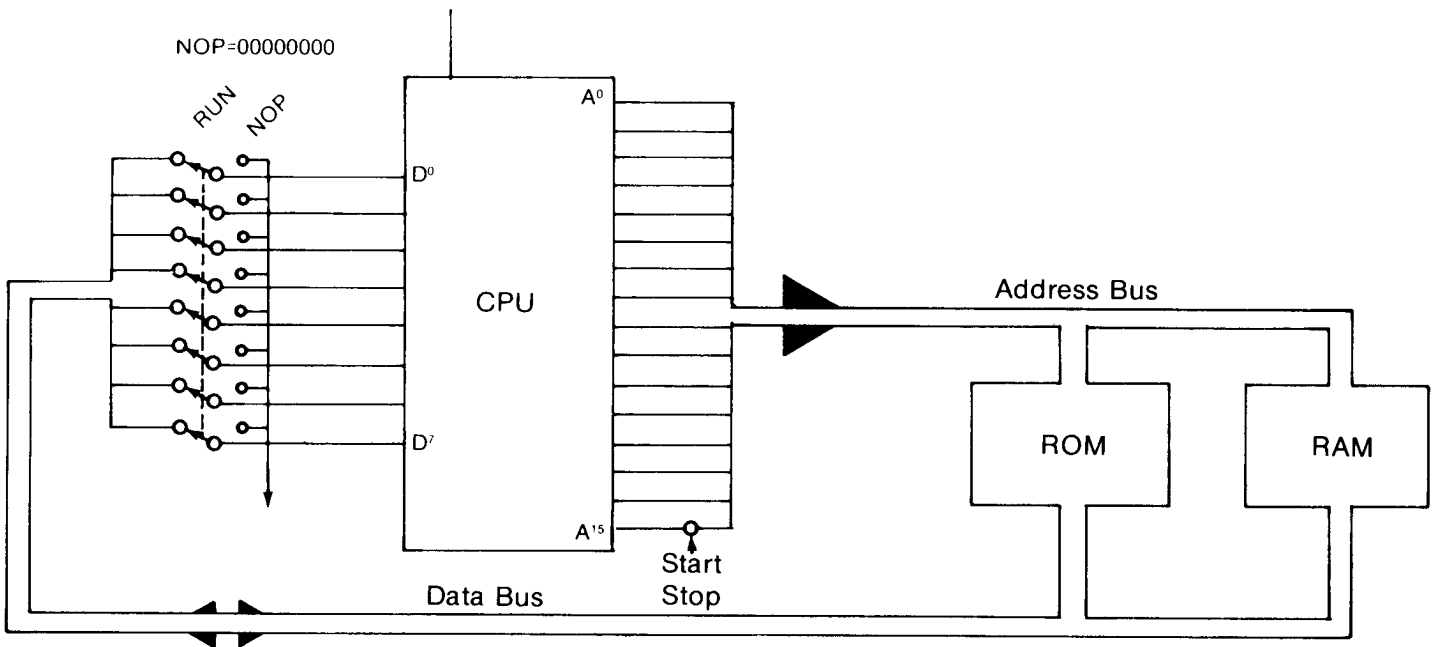

FIGURE 8
This NOP instruction causes the program counter (PC) to be advanced (incremented) 1 count each instruction fetch. If a processor system were designed for Signature II the system would look something like Figure 8.
As in Figure 8 we can cause a processor to "free-run" or to act as a 16 bit counter by use of an 8 pole double throw switch. The same results could be obtained by installing an IC socket in the data bus. A header could be inserted with either a wired feed through or a wired NOP instruction.